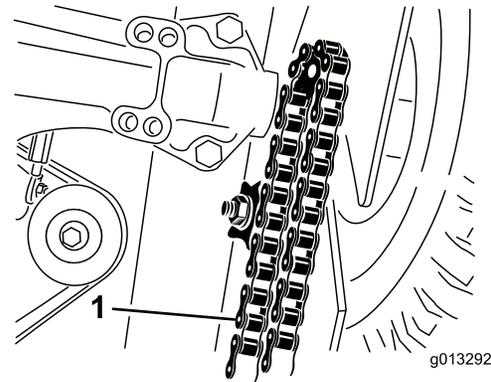

Figure 24
2. Raise the front of the machine to gain access to the chains (Figure 24) and block it in place.